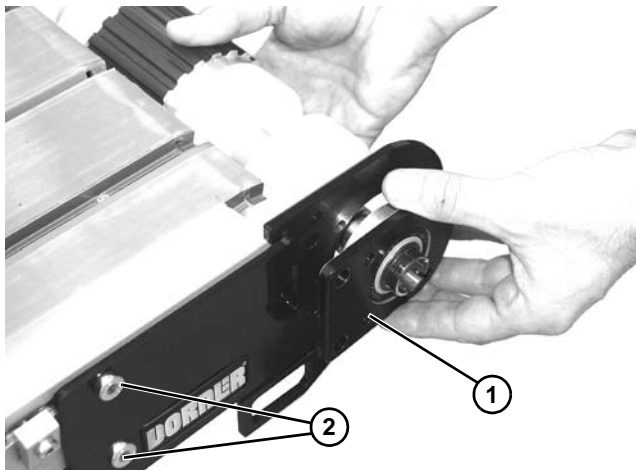

Figure 40
5. Remove the outer headplate assembly (**Figure 40, item 1**).
7. Remove the outer headplate assembly (**Figure 40, item 1**), and inner spacer (**Figure 40, item 2**).